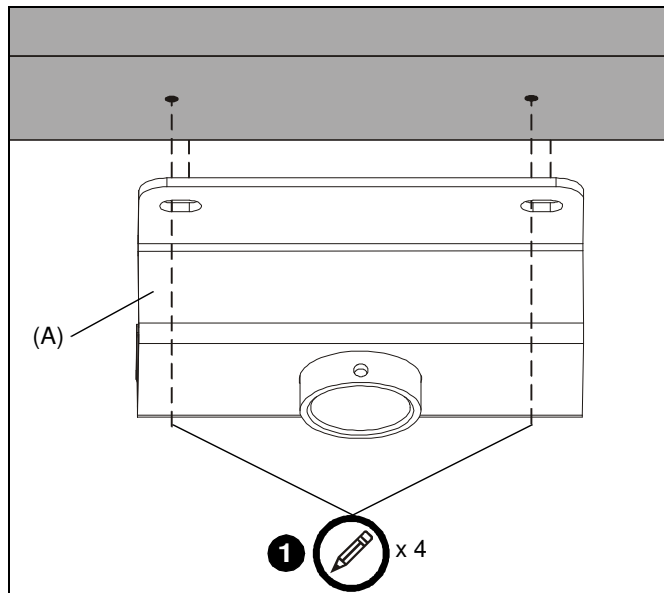

Figure 1
1. Using ceiling plate (A) as a template, mark locations of four pilot holes (See Figure 1). Ensure the marks are in the center of wood joists.